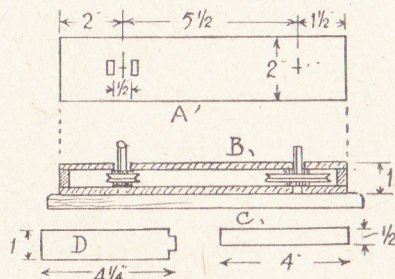

Fig. 1—Section and plan of base
Some of the parts are grouped together in Fig. 1, forming what we might call the framework of the whole. From  $\frac{1}{2}$  in. wood cut two of parts (A). Run a pencil line along the middle, and on this, at the points indicated, bore holes  $\frac{1}{4}$  in. diameter through both.